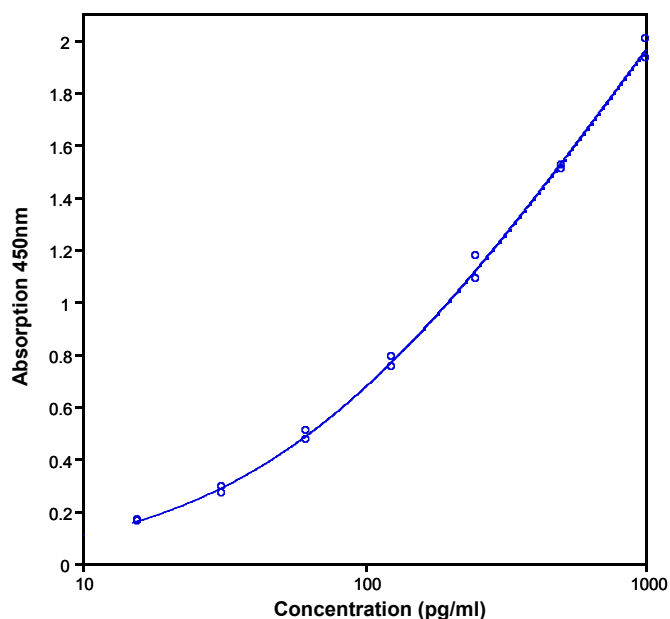

Fig. 8 Representative standard curve for Human IL-8 ELISA Kit. Human IL-8 was diluted in serial 2-fold steps in Sample Diluent.
- A representative standard curve is shown in Figure 8.